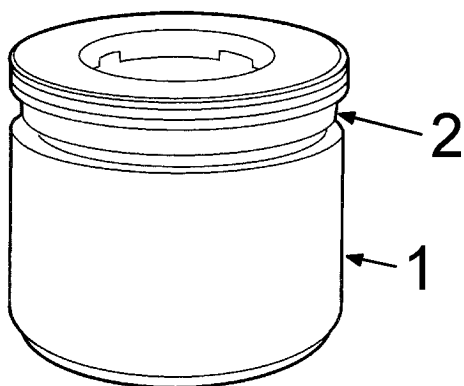

Figure 46 Clean And Inspect Caliper Pistons
6. Clean caliper pistons (Item 1, Figure 46) with solvent.
7. Visually inspect caliper pistons for pitting, scoring or excessive wear. If damage or defects are found, replace as required. If foreign material is found in caliper position boot groove (Item 2, Figure 46), use a fiber brush to remove it.